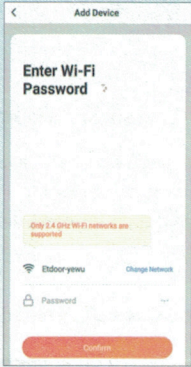
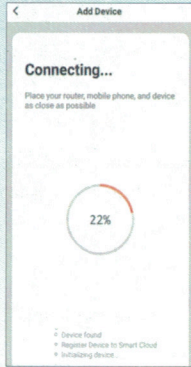

Fig. 32
Fig. 33
4. Choose the appropriate WiFi network, enter the password, and then click the "Confirm" button (see Fig. 32). The opener will then connect to your network (see Fig. 33). This may take up to 2 minutes.